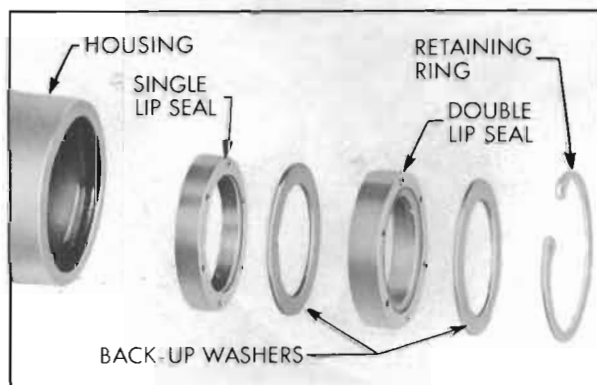
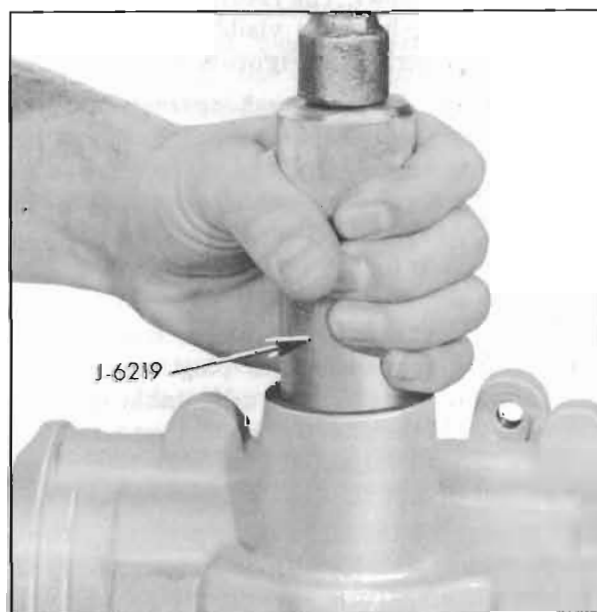

Figure 8-45—Pitman Shaft Seals
Figure 8-46—Installing Pitman Shaft Seals
2. Lubricate new pitman shaft seals in automatic transmission oil. Install the inner, single lip seal in bore first, then a back-up washer. See Figure 8-45. Using Tool J-6219, drive the seal and washer in far enough to provide clearance for the outer seal, back-up washer and retaining ring. See Figure 8-46. *The inner seal must not bottom on the counter bore.* Install the outer double lip seal and the second back-up washer in bore only far enough to provide clearance for the retaining ring with Tool J-6219. Install retaining ring with No. 3 Truarc Pliers Tool J-4245, making certain that ring is seated properly.